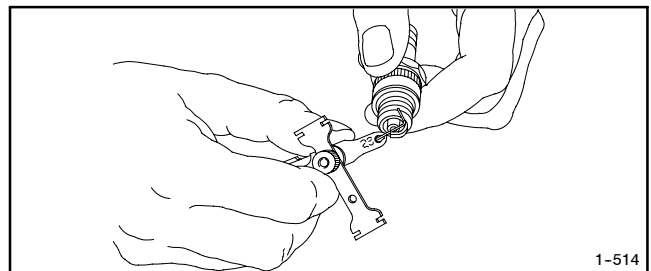
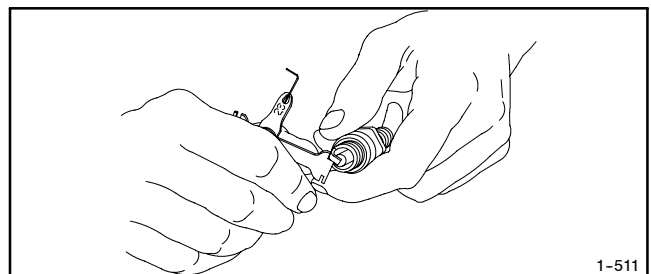

Figure 3-3 Checking the Spark Plug Gap
Figure 3-4 Adjusting the Spark Plug Gap
3. Check the spark plug gap using a wire feeler gauge. Adjust the gap to 0.76 mm (0.030 in.) by carefully bending the ground electrode. See Figure 3-3 and Figure 3-4.